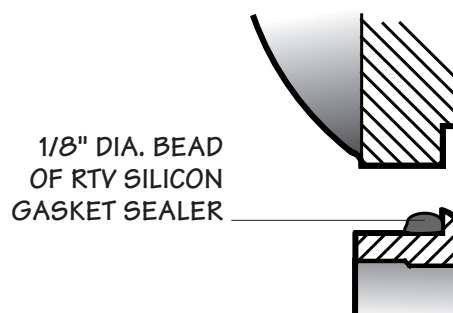

Figure 5 Flange Seal of Bottom Bearing Cap
1. Press ring gear hub (8) and the upper and lower bearing cones (411 and 412) on the fan shaft (201). Install ring gear (101) on ring gear hub and tighten cap screws to 90 ft·lb_f (123 N·m).
2. Install upper fan shaft bearing cup (412) and bearing retainer without shims.
3. Turn the Geareducer case upside down and install the fan shaft assembly seating the upper fan shaft bearing cone into its cup. Install the lower bearing cup (411).
4. Install the bottom cover cap using sealer as indicated in **Figure 5** and tighten cap screws to 25 ft·lb_f (34 N·m). Use old shim pack or make up equivalent thickness shim pack (420) and install the bottom bearing retainer cap. Do not install the O-ring for the bottom bearing retainer at this time. Tighten the cap screws to 25 ft·lb_f (34 N·m).